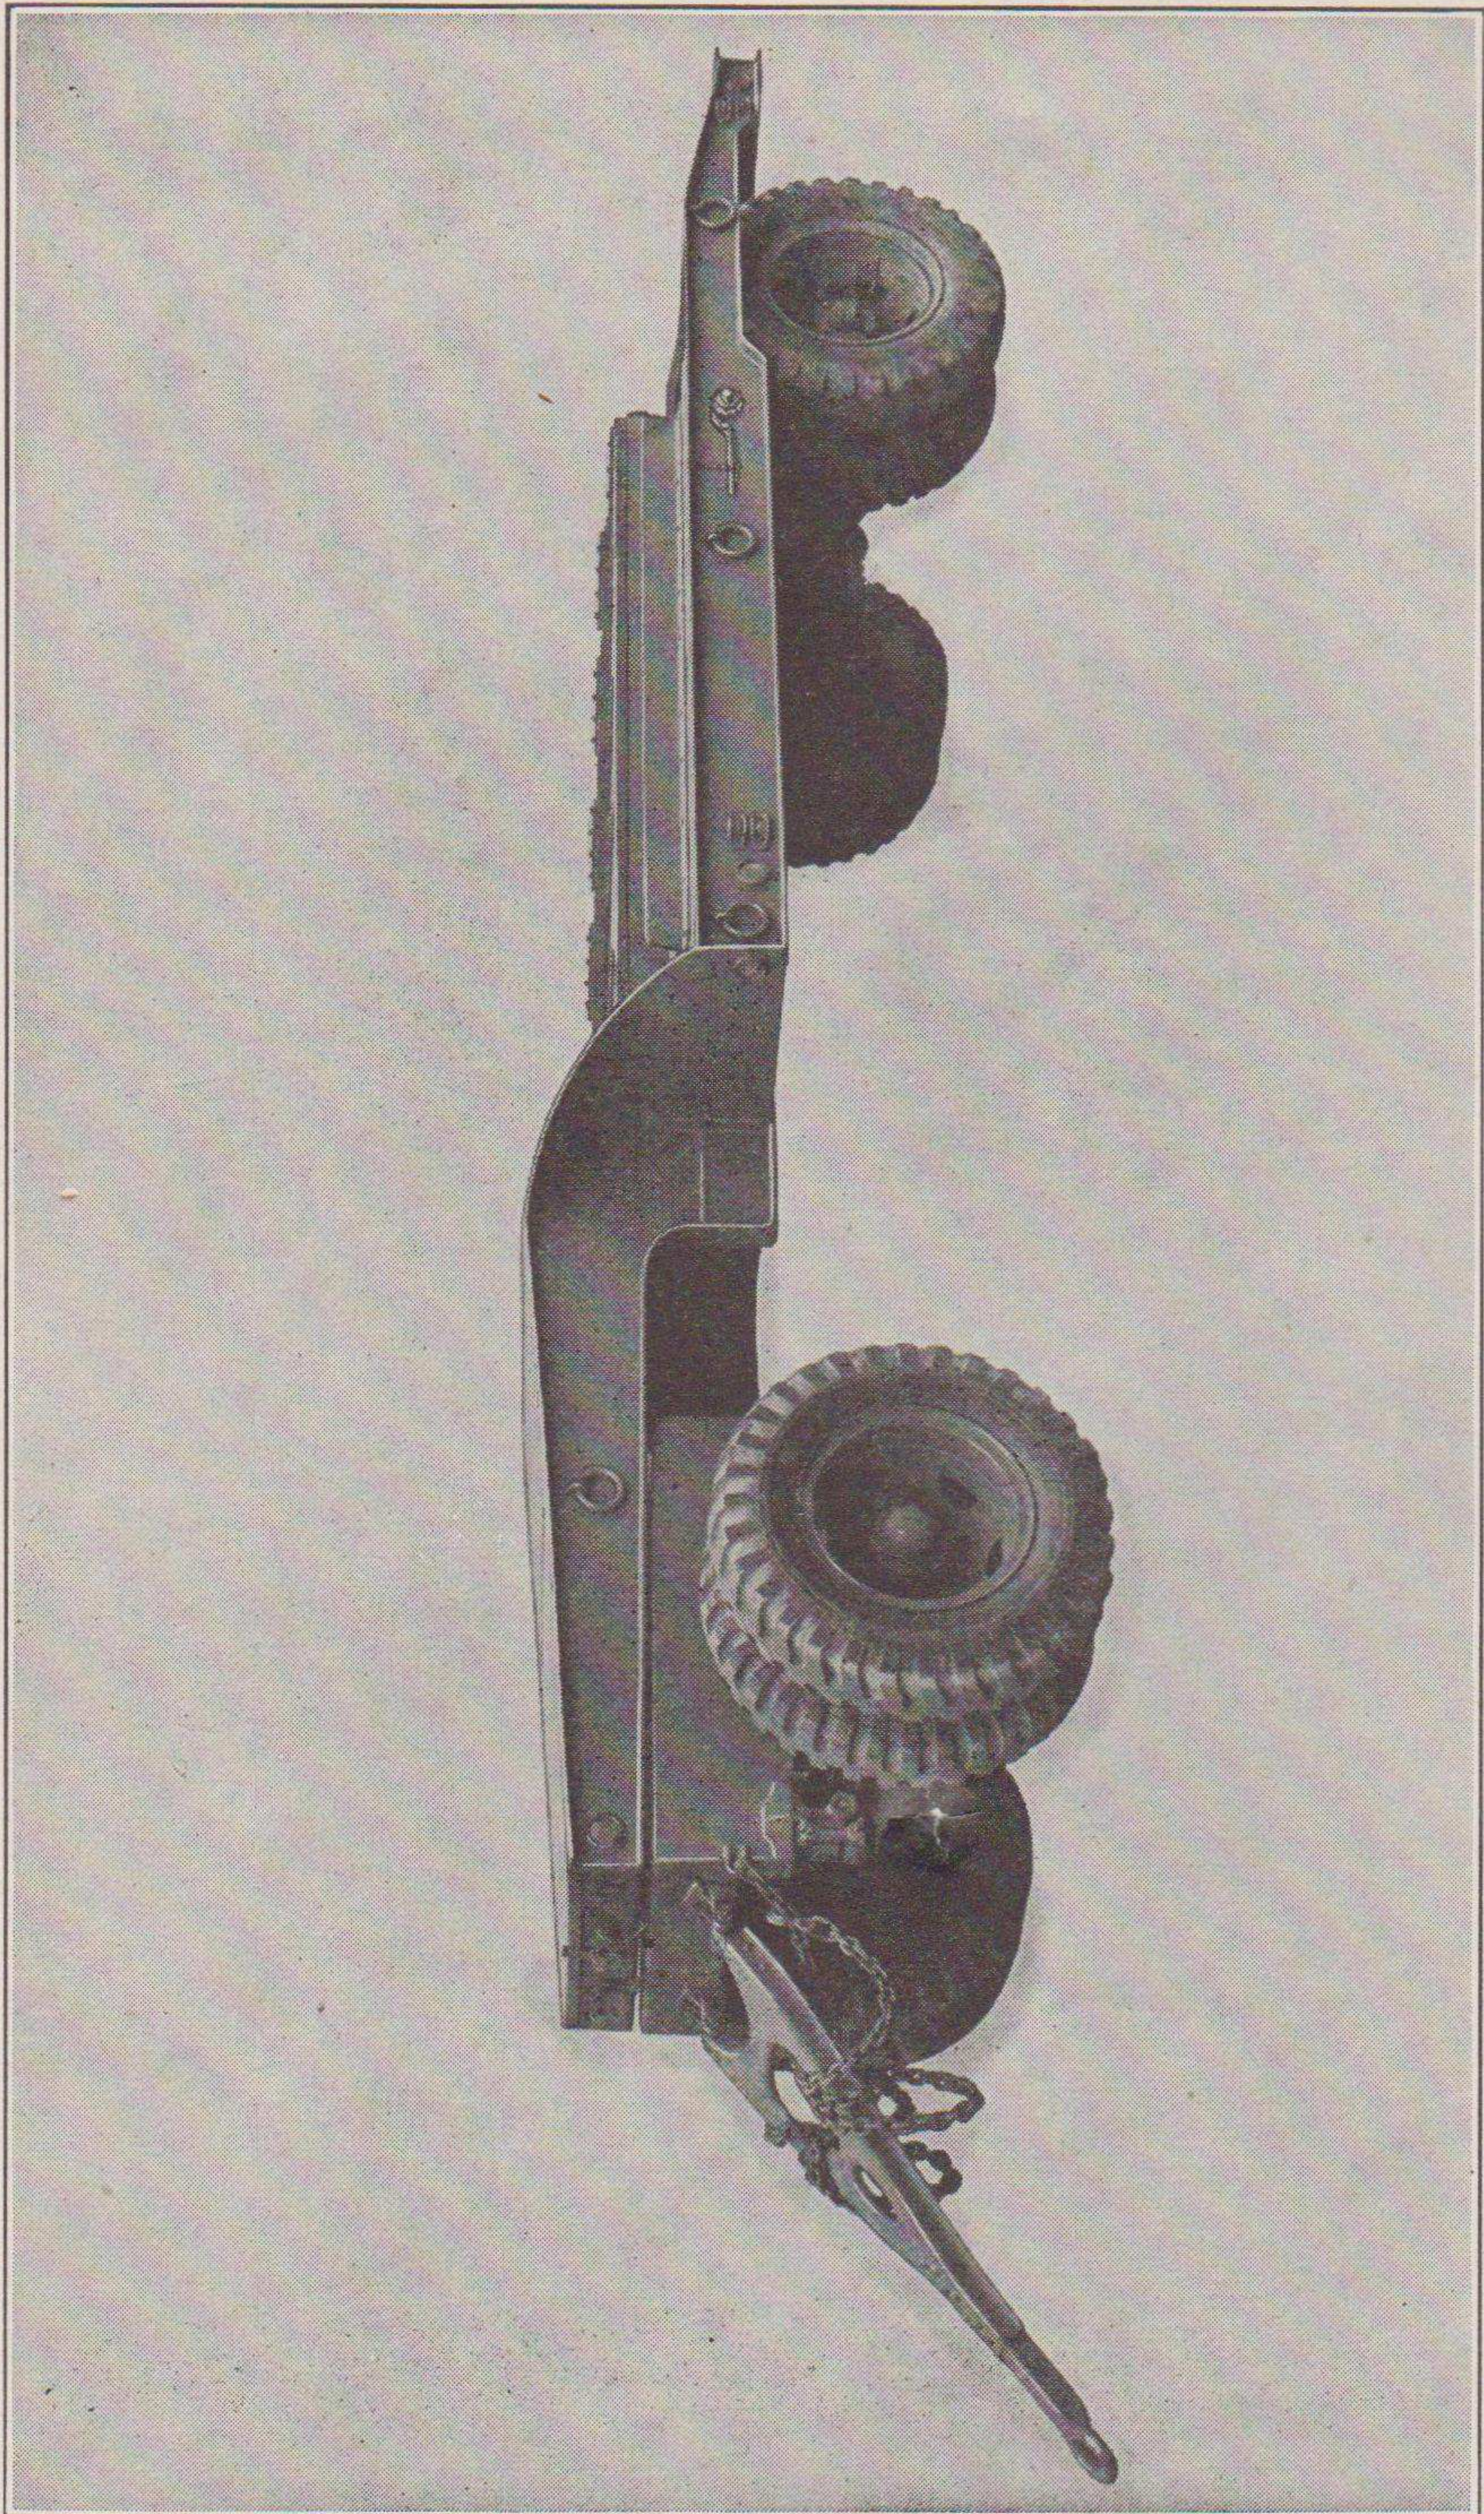

FIGURE 1. 8-TON, LOW BED, PLATFORM TRAILER
a. *Identification.*—(1) This vehicle is illustrated in Figure 1 and it is distinguished by the low drop-frame, and low bed type of platform. The frame is an all-welded unit of pressed, formed hi-tensile steel. A drop forged eye is riveted to a drawbar of pressed steel. Safety chains are attached to the front of the frame. The trailer is mounted on disc type dual wheels at the front and rear. The front and rear axles are of I-beam design.